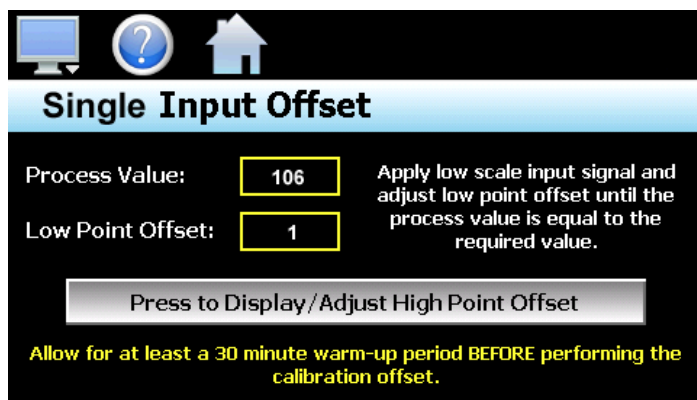

Fig. 108: Input Offset Screen
3. At the Input Offset screen (Fig. 108 - our example is for a single loop), begin calibration by sending the low signal input to the loop input. If the process value does not match the reference signal, adjust the low point offset so that the process value matches the reference input signal.
5. Press the PRESS TO DISPLAY/ADJUST HIGH POINT OFFSET to switch to the high point offset and then apply the high signal input to the loop control (Fig. 108).